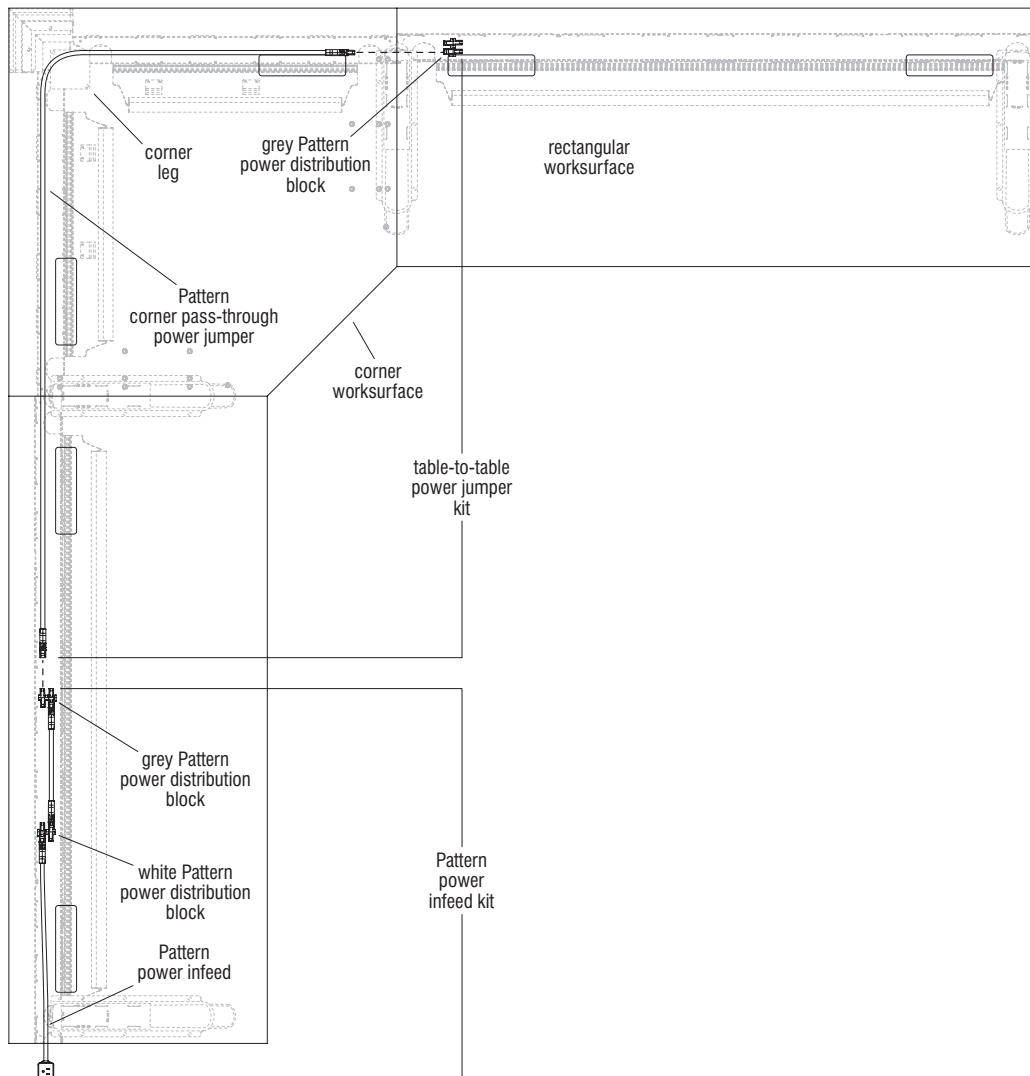

Figure 3
1. Un-clip and open plastic beam doors on each side of corner leg and under right-hand rectangular worksurface (Figure 3).
2. Route the Pattern table-to-table power jumper behind the corner leg and snap end into the grey Pattern power distribution block under the previous worksurface. Feed the other end of the jumper behind the shared leg and plug it into a grey Pattern power distribution block on the next worksurface (Figure 3).